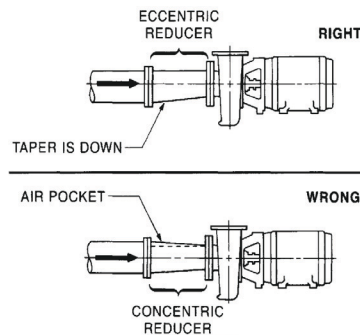

Fig. 3 Inlet piping
- Use an eccentric reducer, with the eccentric side down Fig. 3 when reducing the pipe diameter to the diameter of suction opening.